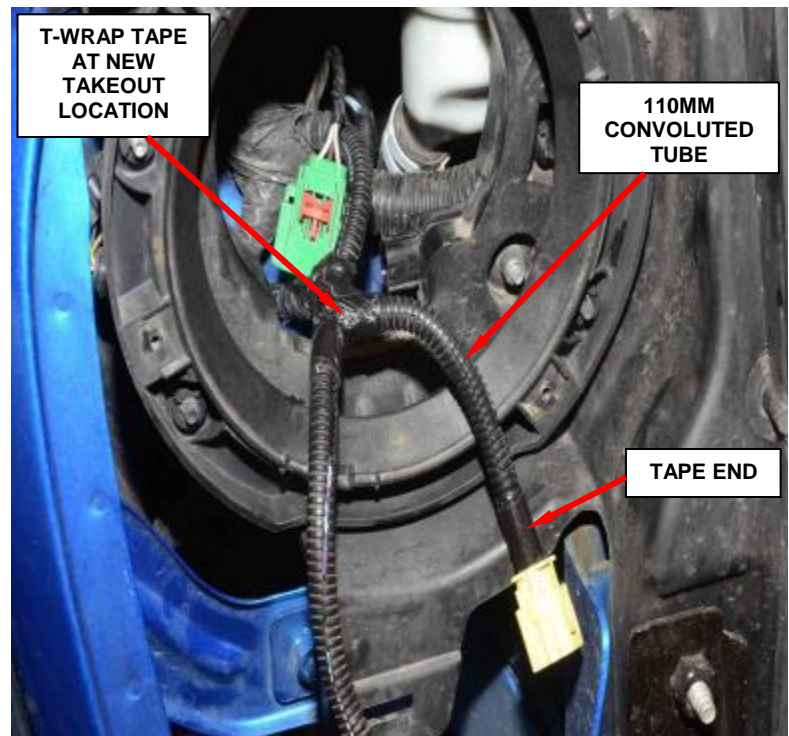

**Figure 9 – Install Convoluted Tubes**
23. Install the 185mm (7.25in) convoluted tube to wire harness (Figure 9 and 10).
24. Install the saved 110mm (4.5in) convoluted tube to the right front impact sensor wiring pigtail (Figures 9).
25. Tape the end of the convoluted tube at the right front impact sensor (Figures 9 and 10).
26. Tape the convoluted tubes at the old takeout location on the wire harness (Figure 9).